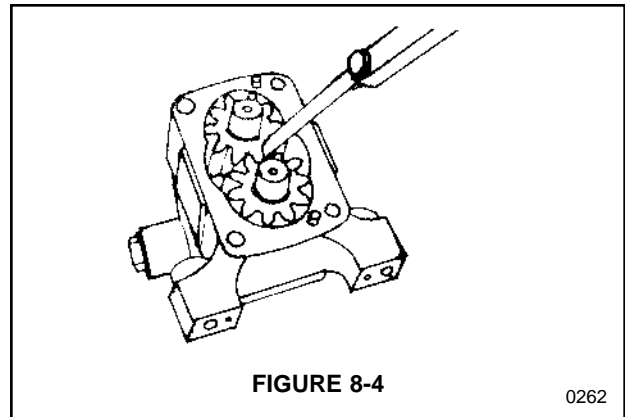

FIGURE 8-4
5. Measure gear backlash as shown with a feeler gauge. See Figure 8-4. The allowable value is between 0.50 mm (0.020") and 0.65 mm (0.026").